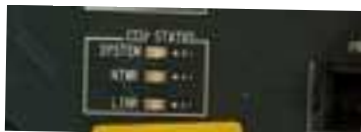

Figure 4 CCU LED feedback
- Wait for all 3 LED's on the CBU board of the "CCU status" to turn on (Figure 4)